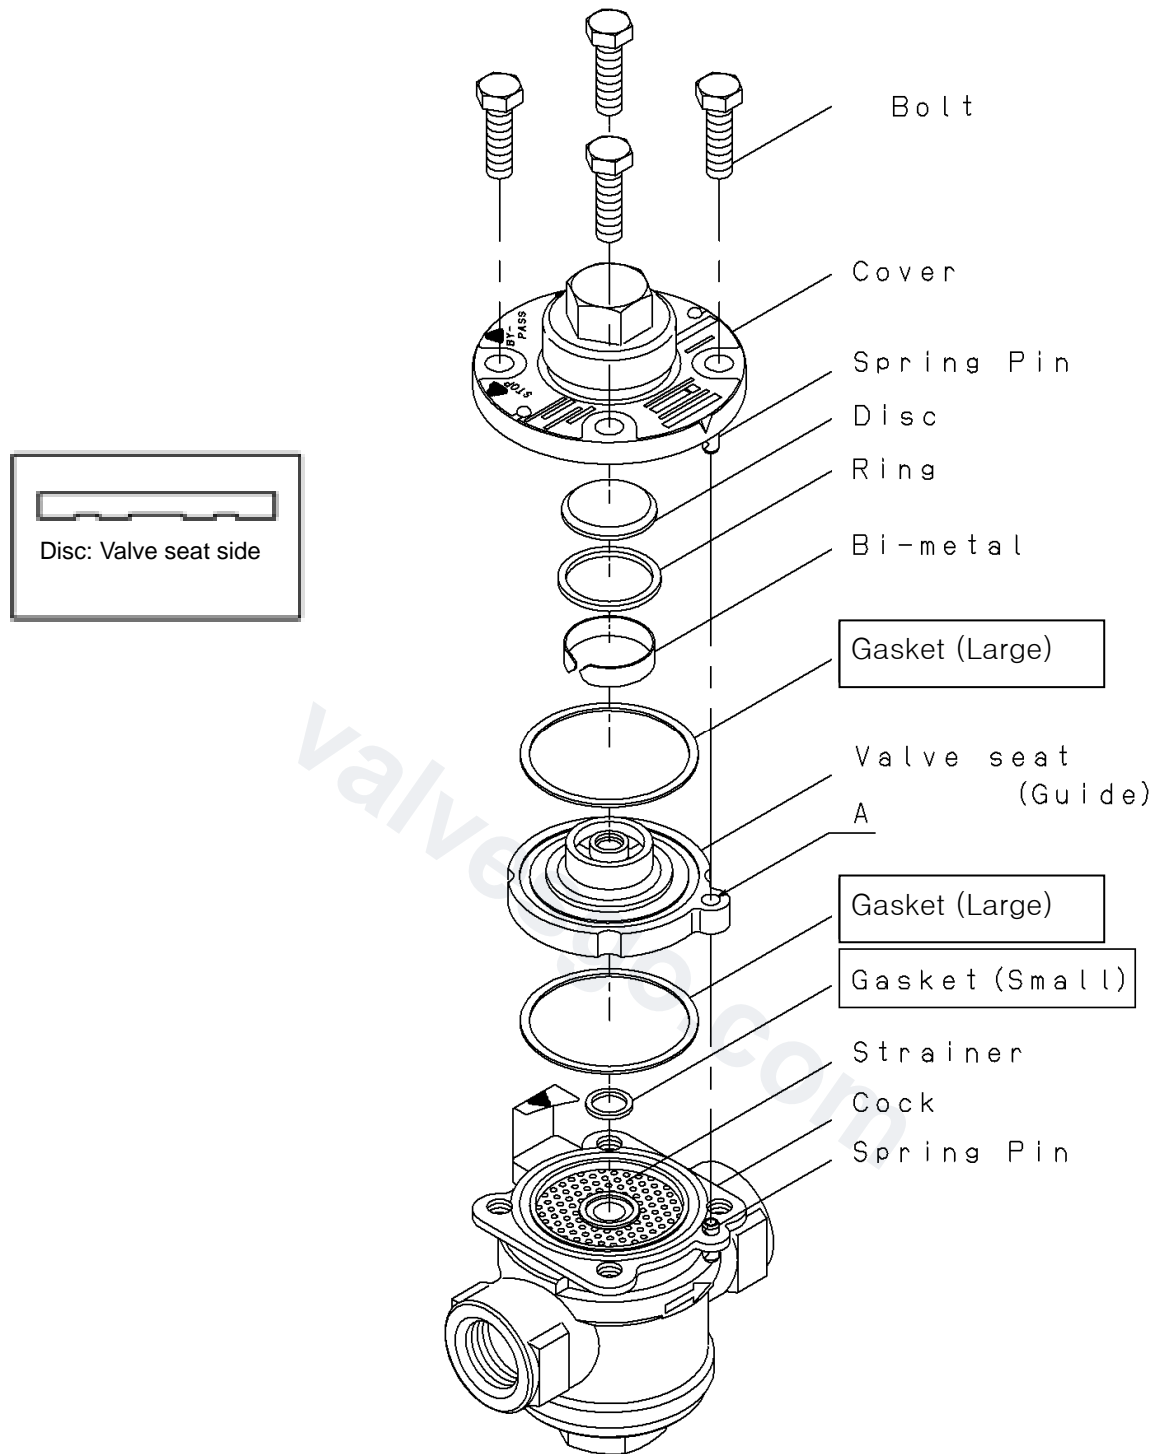

Fig.9
\* Refer to Fig .9 for the part names mentioned above.
Follow the steps below with reference to Fig 9.
- (3) Disassemble the product into the parts as shown in Fig 9.
- (3) After attaching the other piece of gasket (large) into the groove on the valve seat, set the bi-metal, ring and disc on the valve seat in this order. Refer to Fig 9 to avoid setting the disc upside down.